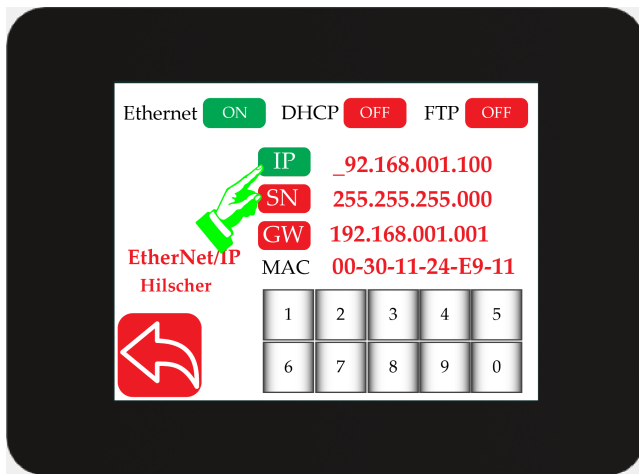

Figure 5.96: Start of IP address change
1. Initiating the manual IP setting process by pressing the IP address change button, which is indicated by the icon turning green. Simultaneously, the first digit of the IP address value will be hidden, as depicted in Figure 5.96.